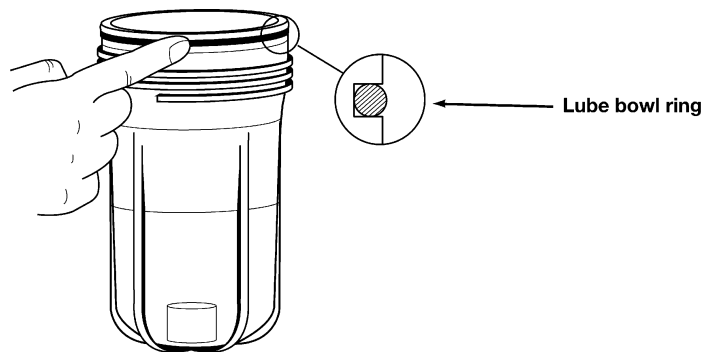

Figure 4
5. Check O-ring on the bowl to make sure it is lightly lubricated and not nicked. Replace if necessary. (Figure 4)